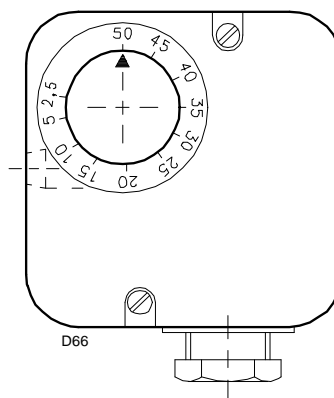

Fig. 32
- Adjust the maximum gas pressure switch to the start of the scale (Fig. 32).